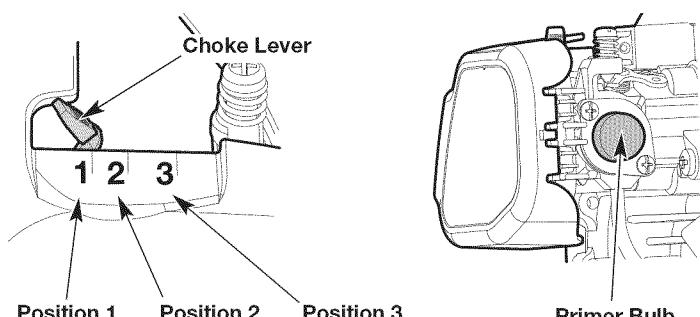

Fig. 13
3. Slowly press and release the primer bulb **10 times** (Fig. 13). If fuel cannot be seen in the primer bulb, press and release the primer bulb until fuel is visible.
4. Move the choke lever to **Position 1** (Fig. 13).
7. Continue to squeeze the throttle control. Move the choke lever to **Position 2** (Fig. 13).
10. Continue to squeeze the throttle control. Move the choke lever to **Position 3** (Fig. 13). Allow the engine to warm up for an additional 60 seconds. The unit may be used during this time.
**IF...** the engine hesitates, return the choke lever to **Position 2** (Fig. 13) and continue the warm-up.